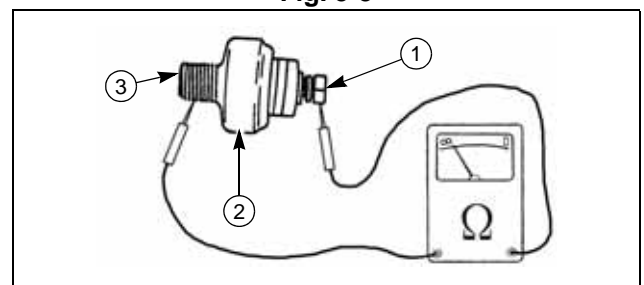

Fig. 5-9
1. Using an ohmmeter, touch one test lead to the pressure switch terminal, ① (page 5-3, Fig. 5-9), and the other test lead to the threads of the switch body, ② (page 5-3, Fig. 5-9).
3. While the test leads are connected to the switch, pressurize the switch oil pressure port ③ (page 5-3, Fig. 5-9), with low pressure 10.0–20.0 psi (69–138 kPa) {0.7–1.4 kgf/c²} compressed air.
2. Install the ring terminal onto the oil pressure switch, and secure the terminal with the retaining screw, ①, (page 5-3, Fig. 5-9).